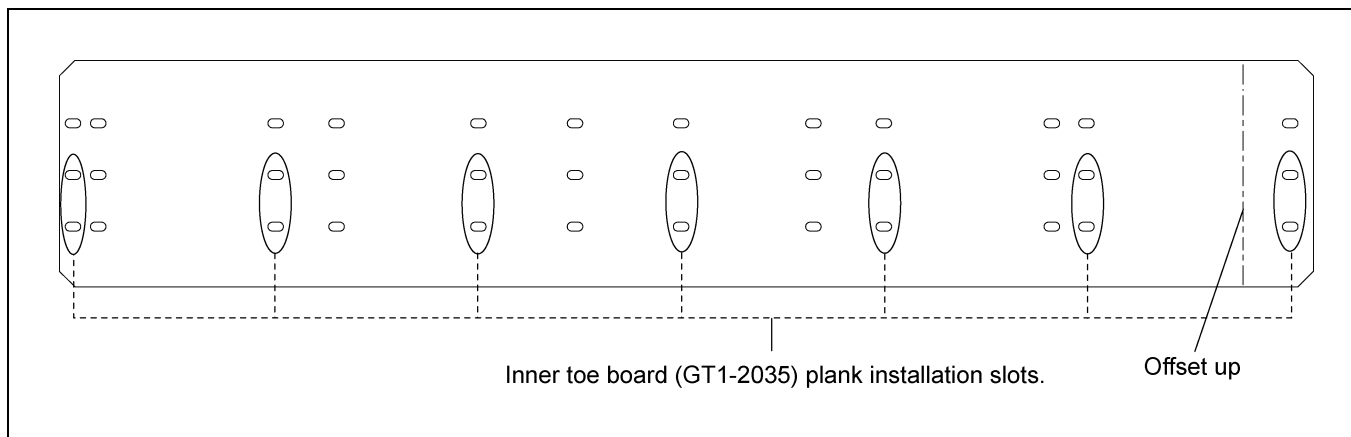

**Figure 6M** Inner Toe Board (GT1-2035) Plank Installation for Offset and Roof Hatch Catwalks
1. Install planks (GT1-2033) to bottom two (2) holes of the inner toe board (GT1-2035) using 3/8"-16 x 1" YDP grade 8 or grade 8.2 bolts (S-7927) and 3/8"-16 ZN grade 5 nuts (S-968). (See Figure 6M.)